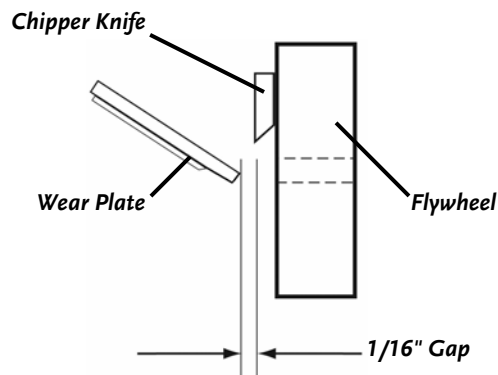

Figure 15
When you replace the Knife, check and set the clearance between the Knife and Wear Plate. Set this clearance or gap to 1/16" (**Figure 15**). If the gap between the Wear Plate and the Knife is not set correctly, you will have excessive vibration when chipping and the Knife will seem to be dull. The Wear Plate should have a square edge and be free of dents or gouges. The Wear Plate can be hand sharpened. Be careful not to overheat it during the sharpening process. This will change the characteristics of the steel and you will then have to replace the Wear Plate.
3. To adjust the Wear Plate Gap, loosen the three (3) 1/4" Nuts and Bolts while holding the Wear Plate in place. Now you can slide the Wear Plate up or down (in or out) to achieve the correct gap setting.
5. Tighten the Nuts and Bolts when the Wear Plate is in the correct position (**Figure 15**).